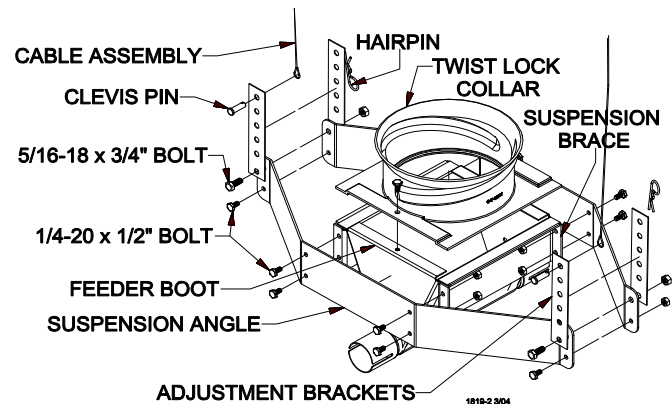

Figure 12.
3. Assemble suspension angles and suspension braces around feeder line boot (single or twin), using 1/4-20 x 1/2" Hex bolts and nuts (supplied in hardware package), see figure 12.
4. Assemble the twist lock collar to the top of the feeder line boot (single or twin) using 1/4-20 x 1/2" bolts and lock nuts (supplied in hardware package), see figure 12.
6. Two cable assemblies (cable with a sleeve clamp and a 5/32 thimble) are supplied with the suspension kit to support the hopper. Attach the cable assemblies to the adjustment brackets using the top holes of the adjustment brackets, see figure 12.